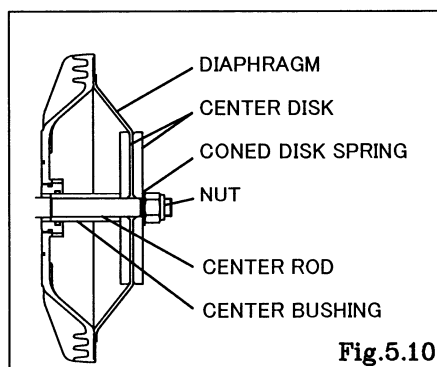

Fig.5.10
Keep the convex side to the outside for TPEE, TPO diaphragms. [Fig.5.10]
- Draw the center disk to one side (exclude B_H, B_S types cf. Fig.5.10). and install the out chamber. tighten the bolts temporarily.